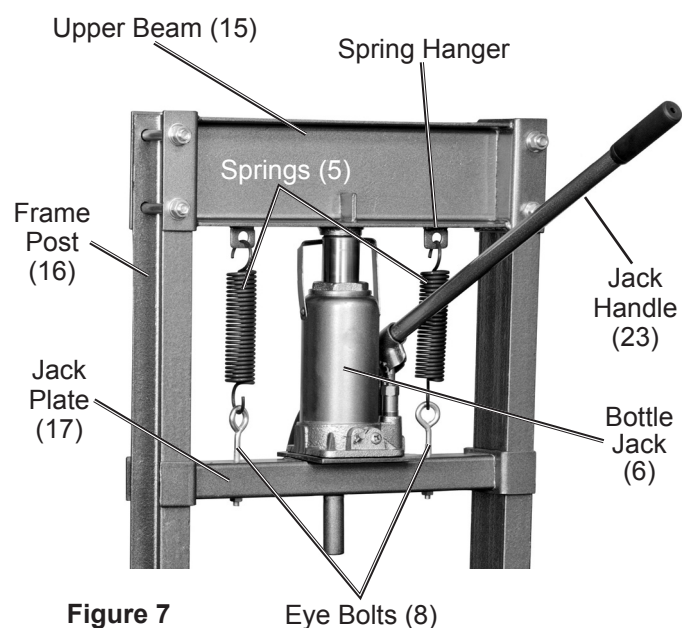

Figure 7
- Hang the Springs (5) on the spring hangers located on the bottom of the Upper Beam (15). See Figure 7.
- Bleed the Bottle Jack (6) (see Bleeding the Bottle Jack section) and make sure it is fully collapsed. Place the Bottle Jack on the center of the Jack Plate (17), align it with two mounting holes in the Jack Plate and secure with two Bolts (7). Slide the Jack Plate up the Frame Posts (16) so the Bottle Jack Saddle fits in the bracket on the center underside of the Upper Beam. Hook the Springs into the Eye Bolts (8) on the Jack Plate to secure the Bottle Jack/Jack Plate in place. See Figure 7.